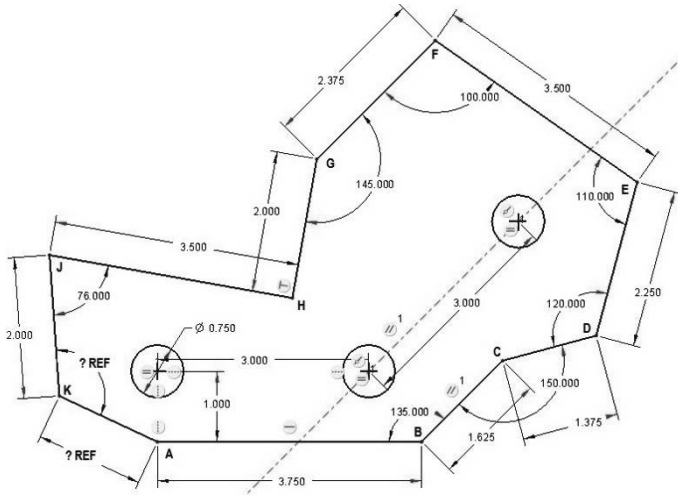

Figure 3-70 Problem 1—Shear Plate
- 3.1 Draw "shear_plate" (Figure 3-70). **Design Intent**—The left hole must be directly above the lower left corner at point A at a height of 1.000 inches. The right hole must be 3.000 inches from the left hole and at the same height. Draw a centerline through the right hole and parallel to line BC. The third hole must be on this centerline 3.000 inches from the second hole. What is the length of line KA, and the angle at K? (>File>Options>Sketcher, change to 3-decimal places before sketching.) Hint: Start at A and draw the general shape until you get to K. Do not draw line KA yet. Dimension the shape according to the design intent, then add line KA, and finally add the two reference dimensions.